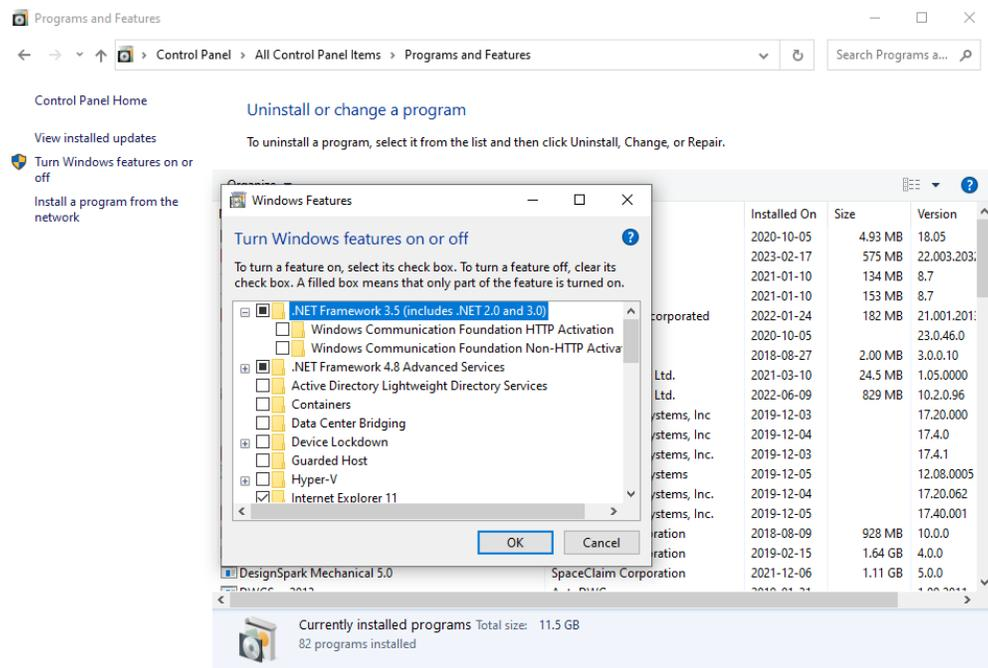

Figure 9: Enabling .NET 2.0
- Click on NET Framework 3.5 (Includes NET 2.0 and 3.0) so the associated check box gets marked black as shown in Figure 9. (Usually top feature displayed).